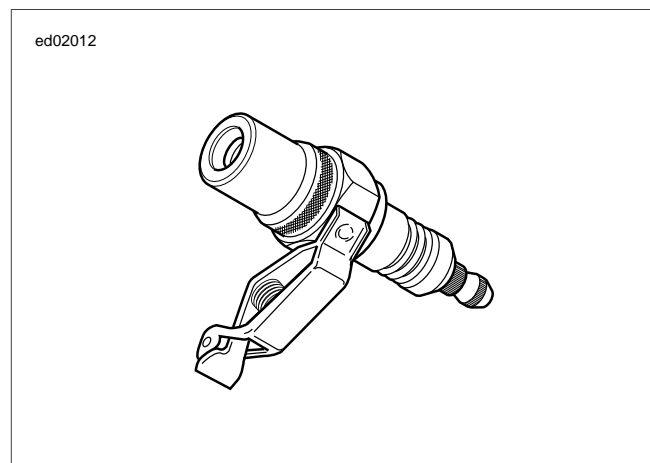

Figure 4-41. Spark Tester
2. See Figure 4-41. A SPARK TESTER (Part No. HD-26792) must be used to verify adequate secondary voltage (25,000 volts) at the spark plug.